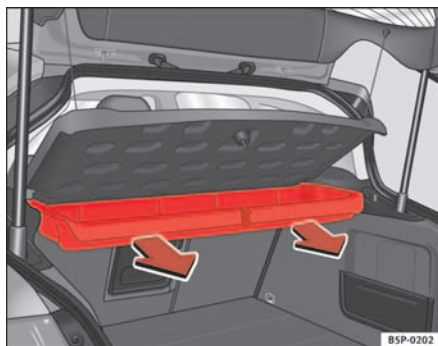

Fig. 122 Removing storage shelf
- Pull outwards until the compartment is freed from the pivot point ⇒ fig. 122.